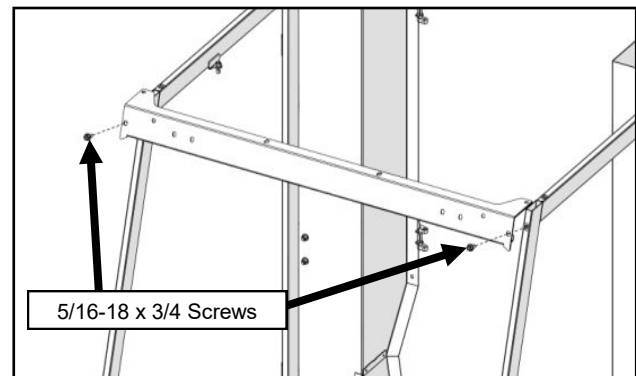

Fig. 8.1 (Windshield Support to Side Frame Fasteners)
8.1 With assistance, align sides and top of the windshield support with the side frames. Fasten the windshield support in place with a screw through the front of each side frame. See Figure 8.1. Confirm bolt holes in the top of the windshield support align with the inserts in the side frames and tighten hardware.